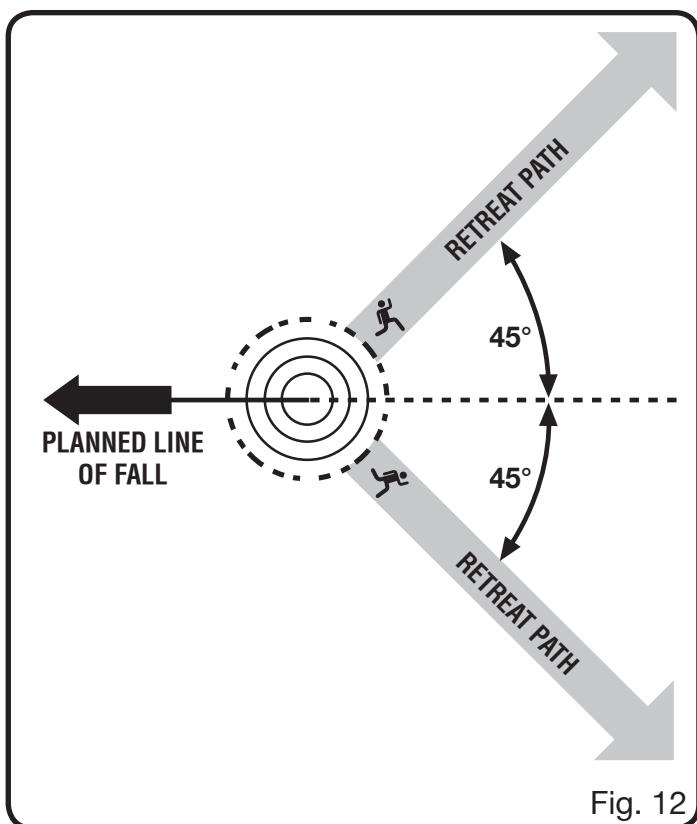

Fig. 12
See Figures 12 - 15.
- Before any cuts are started, pick your escape route (or routes in case the intended route is blocked); clear the immediate area around the tree and make sure there are no obstructions in your planned path of retreat. Clear paths of safe retreat should extend back and diagonally (45°) to the rear of the planned line of fall. When the tree begins to fall, you should retreat away from the direction of fall along a retreat path and at least 20 feet away from the trunk in case it kicks back over the stump. See Figure 12.